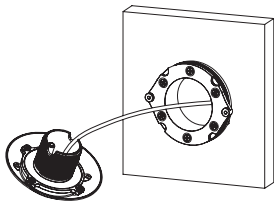
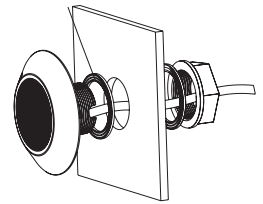

Figure 10
Figure 13
4. The lamp is arranged on the cover shell and through the line hole; then tighten the Nut (Figure10 and Figure 13).